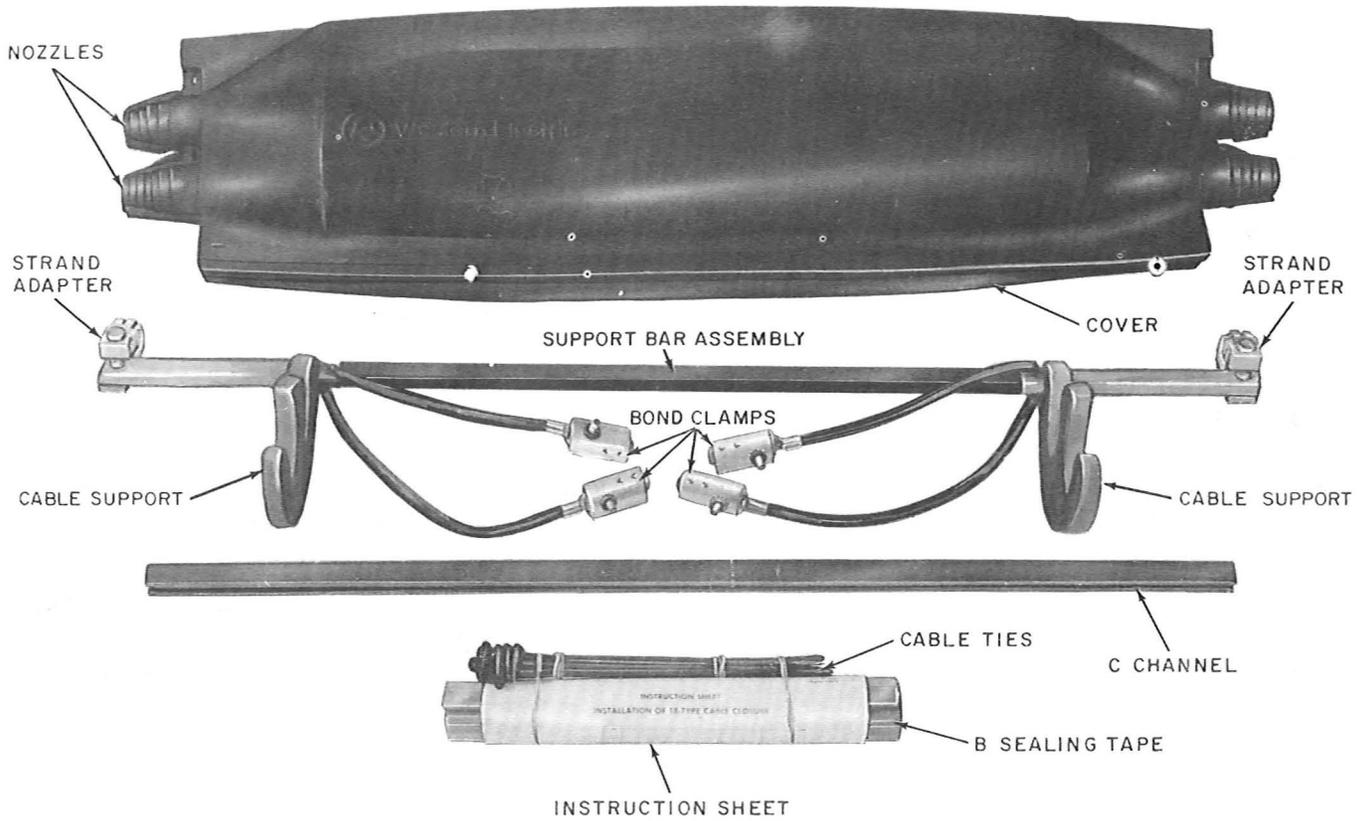

Fig. 1—18-Type Cable Closure
2.01 Figure 1 illustrates the 18-type cable closure.